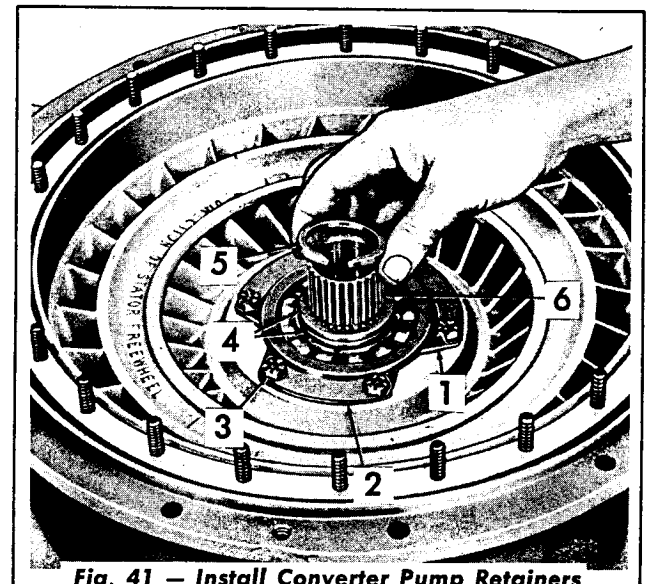

Fig. 41 — Install Converter Pump Retainers
5. Install the three bearing retainers (Fig. 41), the three lock strips, and the self-locking capscrews. Bend the corners of the lock strips against the capscrew heads. Install the two internal-splined spacers and the snap ring on the ground sleeve.
the freewheel roller race in position. Turn the stator on edge and install it onto the ground sleeve (6, Fig. 41).